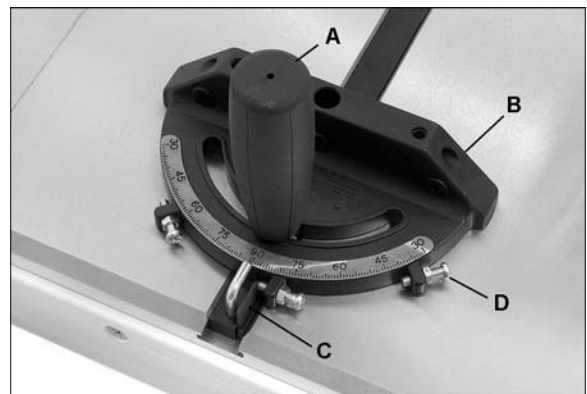

Figure 16
2. Operate miter gauge by loosening lock knob (A, Fig. 16) and turning miter body (B) to desired angle. To move gauge beyond index stops of 45° and 90°, flip stop (C) out of the way.
3. Adjust index stops by turning one of three adjustment screws (D).